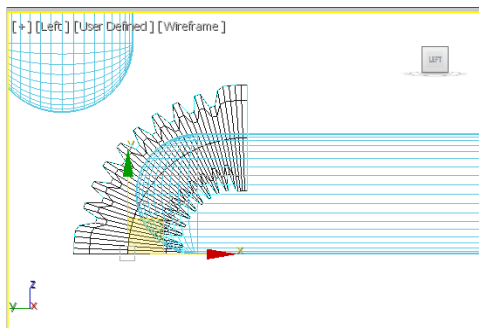

Figure 3-33 The *spring support* geometry zoomed in the **Left** viewport
8. Activate the **Left** viewport and make sure that *spring support* is selected. Choose the **Zoom Extents Selected** tool; *spring support* is zoomed in the **Left** viewport, as shown in Figure 3-33.